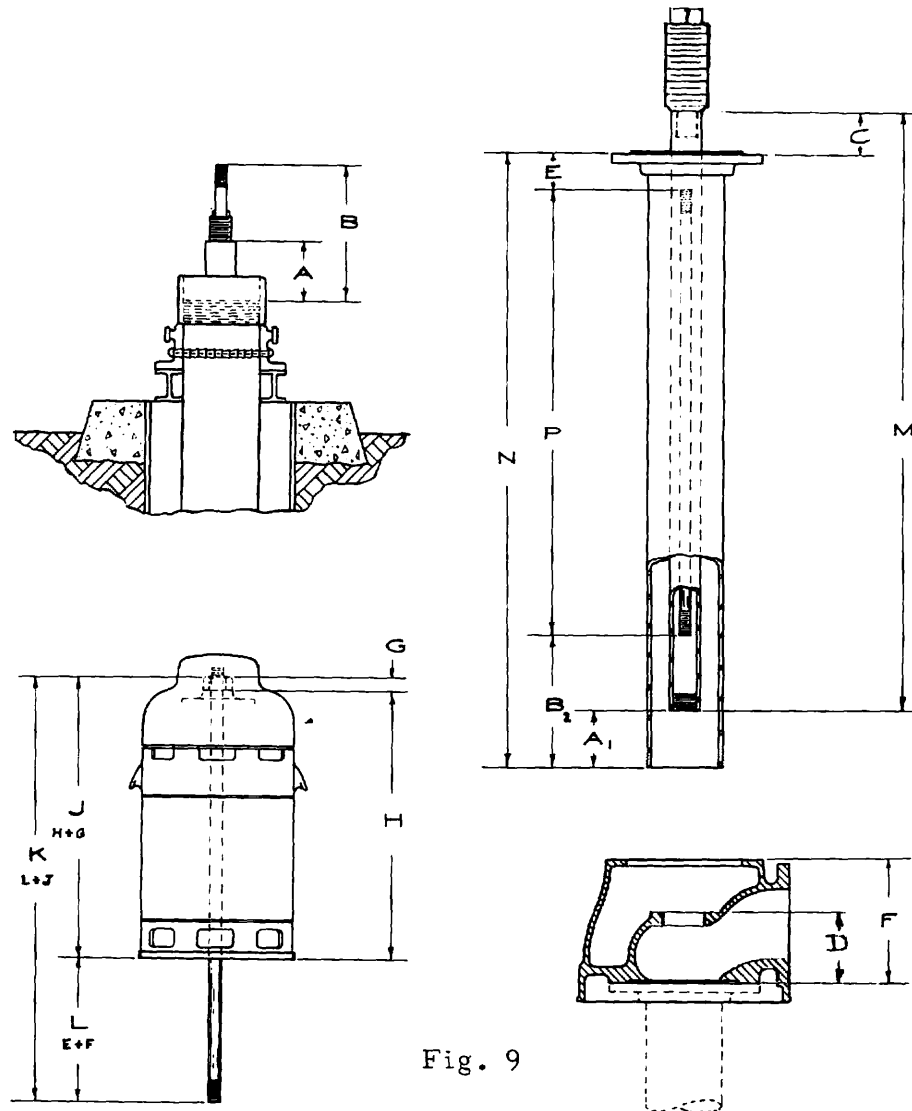

Fig. 9
For this reason, a careful check should be maintained throughout the column installation to determine that the shaft and tubing projections remain reasonably constant at each joint. At the last column joint before the final 10 foot section is installed, the shaft and tube extension from the pipe butt must be measured. See Fig. 9. The standard projections are 14 inches for the shaft (B) and 6 inches for the tube (A).
Similarly, and still with reference to Fig. 9, the proper shaft projection must be verified as follows: